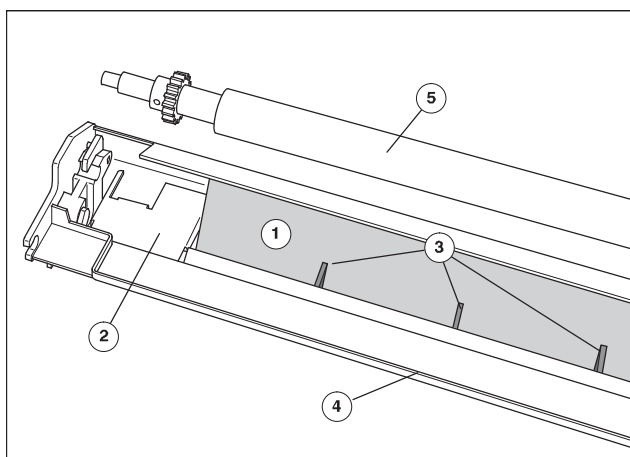
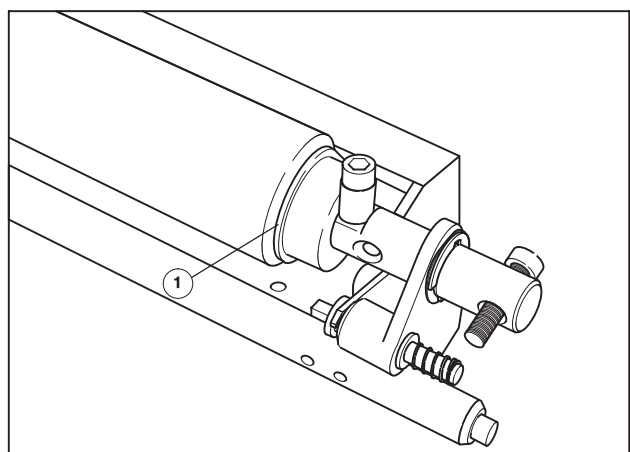

Fig. 56 Washup felt with removed metering roller
Fig. 57 Blanket washup device, gasket D.S.
4. Remove the support rail (Fig. 56/2) from the washing fluid trough.
5. Remove the washup felt (Fig. 56/1) from the support rail.
6. **Clean** the washing fluid trough (Fig. 56/4) and the support rail cautiously with a cloth soaked with washing fluid.
7. Slide a new washup felt (Fig. 56/1) in the support rail (Fig. 56/2) behind the ribbing (Fig. 56/3).
8. Insert the support rail (Fig. 56/2) in the washing fluid trough (Fig. 56/4).
9. Insert the metering roller (Fig. 56/5) and reassemble the blanket washup device; in doing so, make sure that the gaskets (Fig. 57/1) on the washup roller are aligned so that the radius lies against the metering roller.